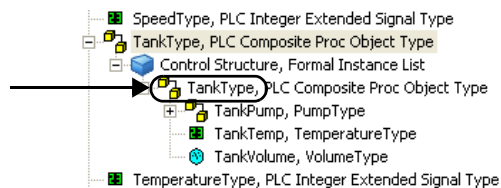

Figure 13. Added Object Type Instance
29. Expand the *TankType* object type to view the added instance as shown in Figure 13.